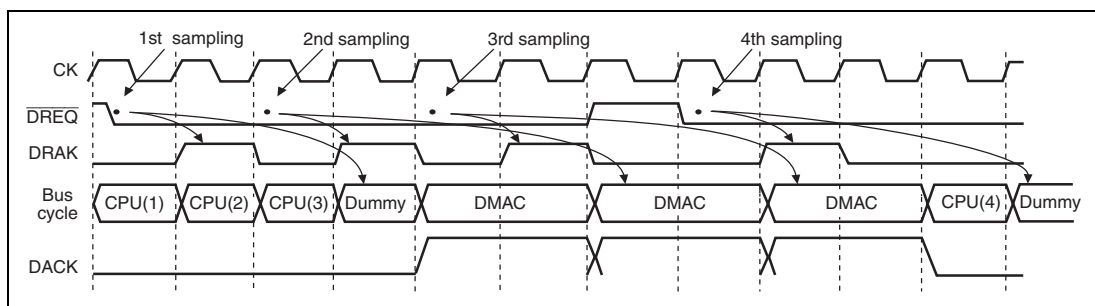

**Figure 10.20 Burst Mode, Single Address and Level Detection (Fastest Operation)**
**Burst Mode, Single Address, and Level Detection:**  $\overline{\text{DREQ}}$  sampling timing in burst mode with single address and level detection is shown in figures 10.20 and 10.21.
As with the fourth sampling in figure 10.20, once DMAC transfer is interrupted, a dummy cycle is again inserted at the start as soon as DMAC transfer is resumed.